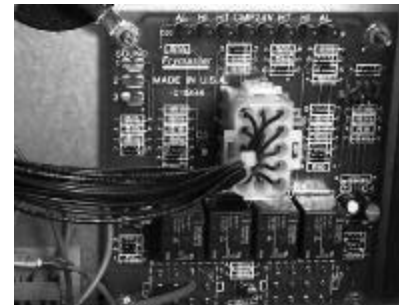

Fig: 10-6
Note: Access to the interface board is required to perform troubleshooting. See Figures 10-6 and 10-7.
6. Remove the screws securing the component box. Let the top of the box swing forward enough so that the wire harness can be unplugged from the back of the interface board. **Fig: 10-6**